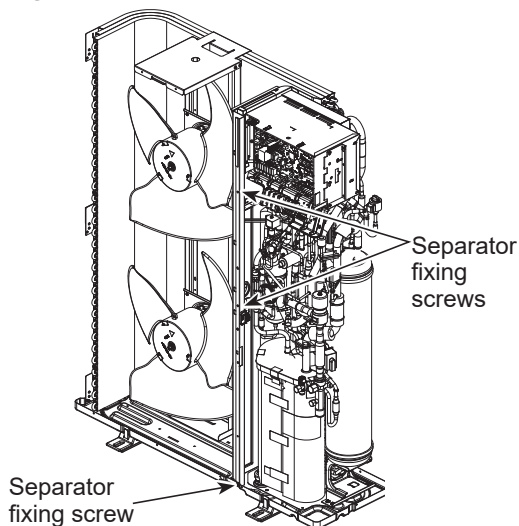

Figure 4
2. Remove the fuse covers. (See Figure 4)